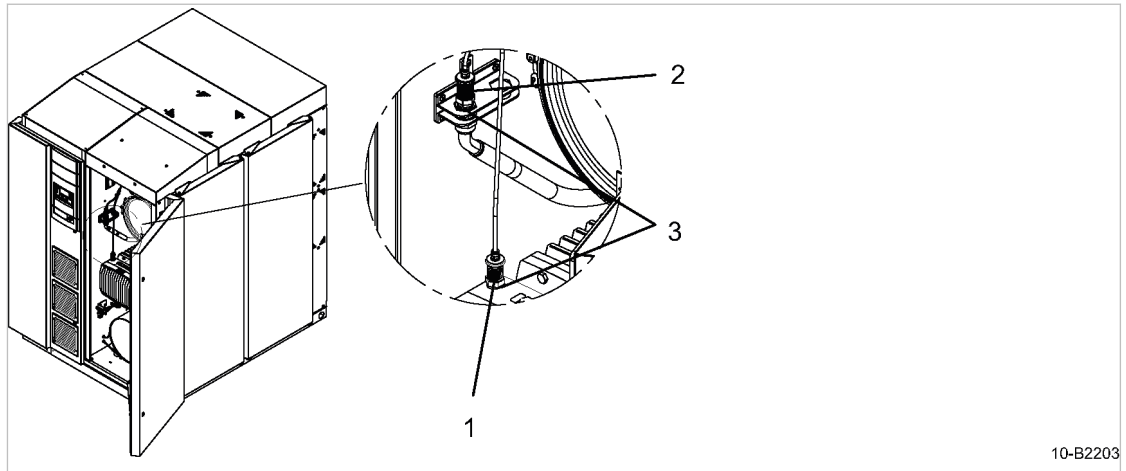

Fig. 28 Replenishing lubricating oil
2. Use the wrench to slowly open the oil inlets of the gear and drive side, items ① and ② in Fig. 28.
3. Screw off caps ④ of gear and drive end, secure against re-closing and ensure that the oil can flow freely.
4. Open oil drain valves ③ and let lubricating oil drain out.